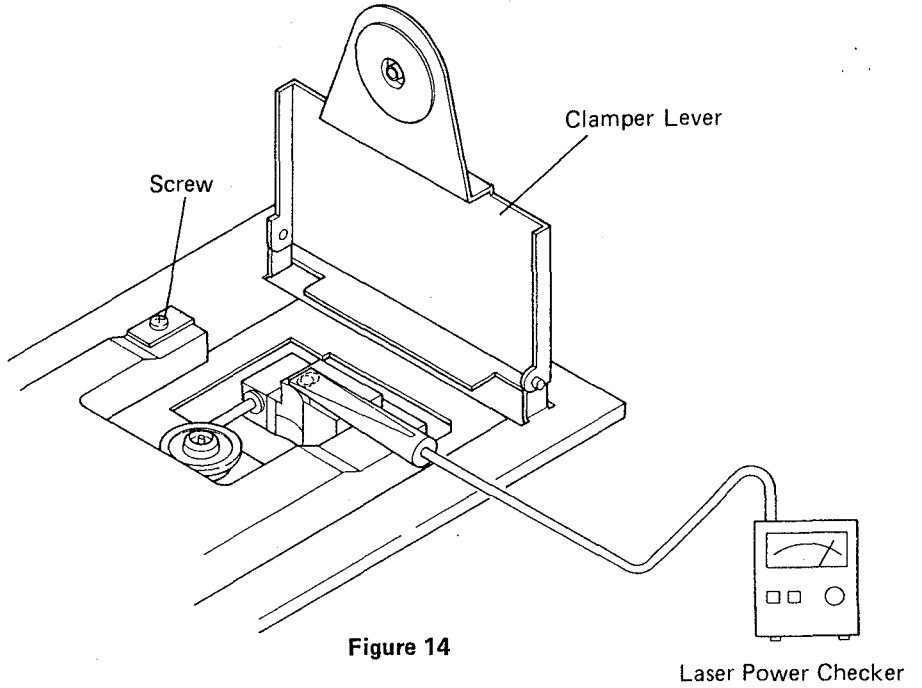

Figure 14
3. When the disc tray comes out fully, raise up clamper lever vertically. (See Figure 14)
4. Remove stopper fitting and mounting screw, and the disc tray will be removed. (See Figure 14)